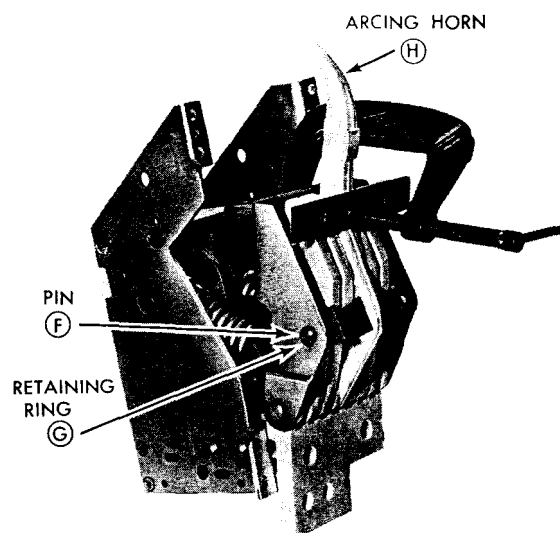

Figure 2
- 13) Slide Barrier (E) off end of Crossbar (D).
- 14) Remove Hex Nuts (C), lockwashers and clamp plates, and remove crossbar.
- 15) Position C-Clamp, Figure 2 and tighten to relieve the pressure of Arcing Horn (H) against Pin F. Use paper between contact surfaces of clamp to prevent marring of clamped surfaces.
- 16) Remove Retaining Rings (G) from each end of Pin F with Tru-Arc pliers. Withdraw pin.
- 17) Install new contact arm assembly by reversing procedure. NOTE: When replacing Barrier (E), curved edge is up and chamfered corner towards line end of breaker.